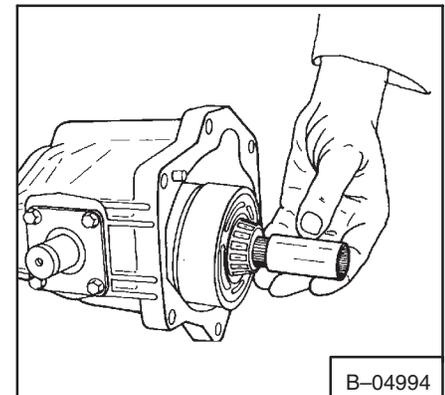

Fig. 3-150 Installing Coupler
- Put the splined coupler on the drive shaft (Fig. 3-150).